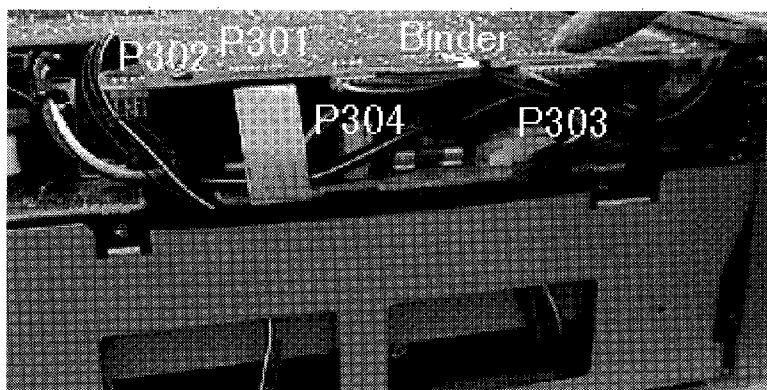

Fig. 3
7. Pull out three connectors(P302, P303, P304) which are located right in Tuner Circuit as seeing from behind and are connected from CD Mechanism(Z1). Remove Flexible Flat Cable(P301) from Tuner Circuit. (See Fig. 3)